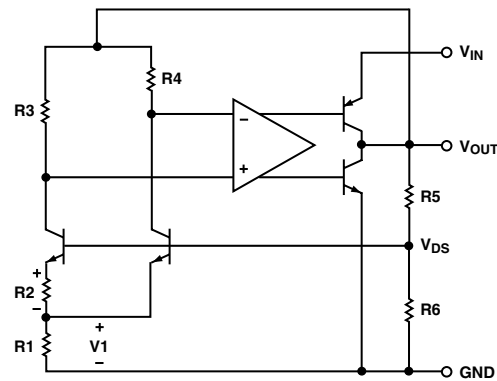

Figure 1. Simplified Schematic
The ADR370 uses the band gap concept to produce a stable, low temperature coefficient voltage reference suitable for high accuracy data acquisition components and systems. This device makes use of underlying temperature characteristics of a silicon transistor's base-emitter voltage ( $V_{BE}$ ) in the forward biased operating region. Under this condition, all such transistors have a  $-2 \text{ mV}/^\circ C$  temperature coefficient (TC) and a  $V_{BE}$  that, when extrapolated to absolute zero, 0 K, (with collector current proportional to absolute temperature) approximates the silicon band-gap voltage. By summing a voltage that has an equal and opposite temperature coefficient of  $2 \text{ mV}/^\circ C$  with a  $V_{BE}$  of a forward biased transistor, an almost zero TC reference can be developed. The simplified circuit diagram in Figure 1 shows how a compensating voltage,  $V_1$ , is achieved by driving two transistors at different current densities and amplifying the resultant  $V_{BE}$  difference ( $\Delta V_{BE}$ , which has a positive TC). The sum ( $V_{BG}$ ) of  $V_{BE}$  and  $V_1$  is then buffered and amplified to produce a stable reference voltage of 2.048 V at the output.